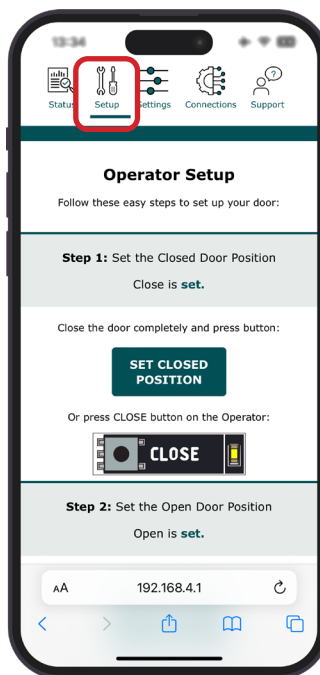

Figure 9
To set the door open and closed positions for the operator, select the Setup application page (Figure 9) and perform the following steps.
1. Manually close the door and select “Set Closed Position”. (Figure 9)
2. Open the door to the fully open position (Limited to 90°). Holding the door open, select “Set Open Position”. (Figure 9)